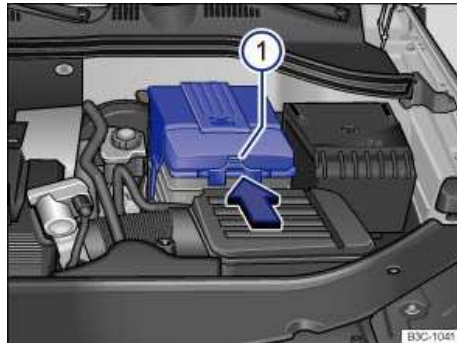

Fig. 143 In the engine compartment: Remove the cover from the vehicle battery.
- *With a hard cover* ⇒ fig. 143: Press on the clip (1) in the direction of the arrow and remove the cover upward.